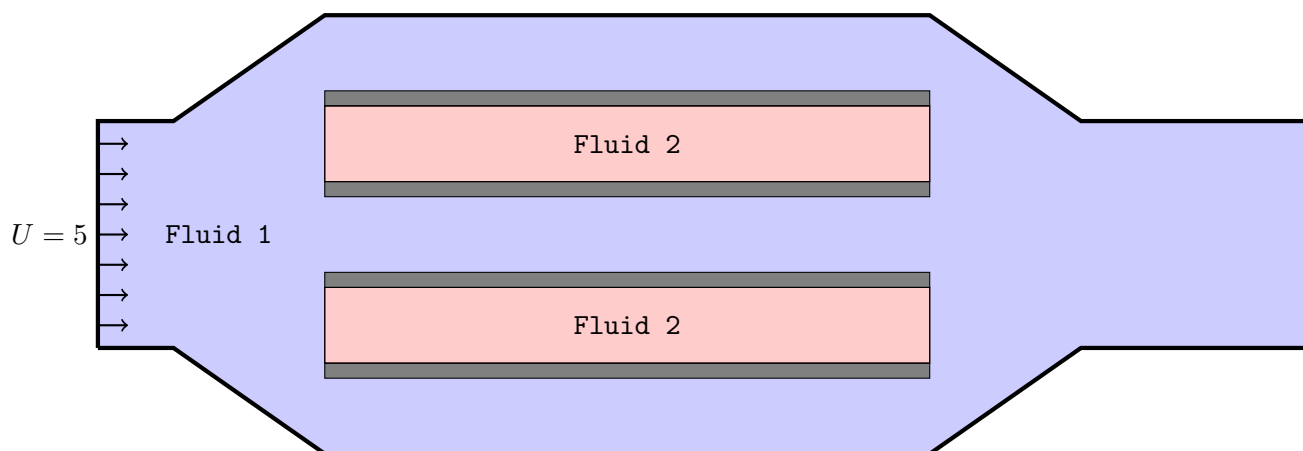
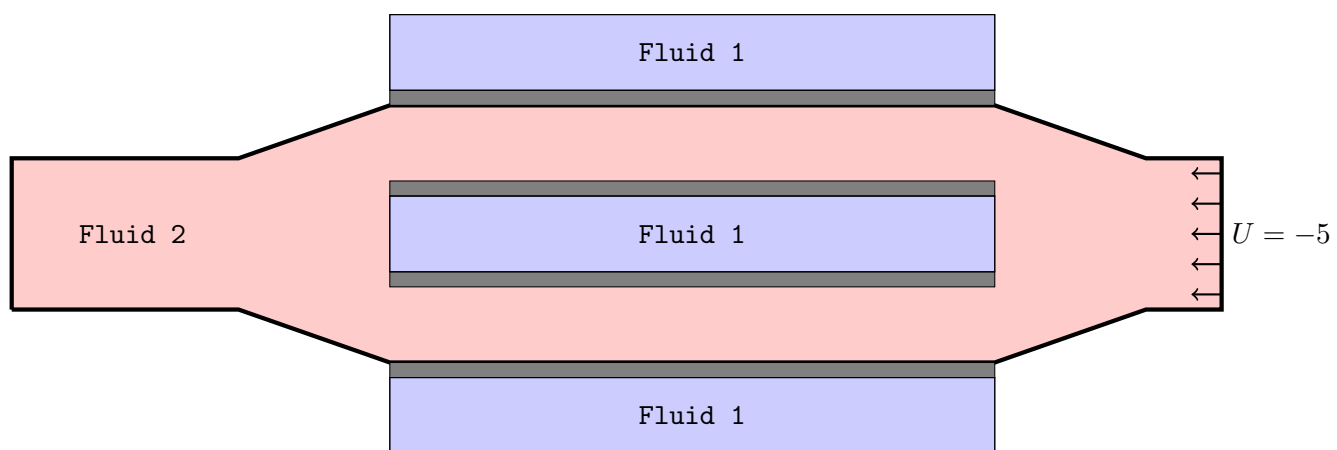

Figure 6: 2D heat-exchanger, Fluid 1
Figure 7: Geometric setup: 2D heat-exchanger, Fluid 2
- c) **2D heat exchanger:** A heat exchanger is a tool that heats up a cold target fluid (here fluid domain 2) by a warm fluid (here fluid domain 1) without mixing both fluids. The two fluid domains, Figure 6 and Figure 7, are aligned at the four thin gray bars. The four bars are the solid participant. Add two new cases `F1-heat-exchange` and `F2-heat-exchange` in `spec_boundary_val()` to set the inflow velocity and temperature. Use the provided case files to run the simulation and make sure it works. Depending on your implementation, you may need to adjust the geometry files. Experiment with different shapes, parameters and ‘turning on’ gravity, to allow for a better exchange of heat.